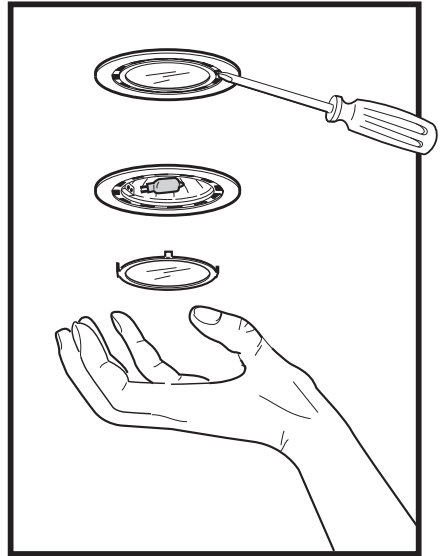

Fig. 2
- Using a flat edge from a screwdriver or equivalent tool pry loose the lens cover as shown in Figure 2.